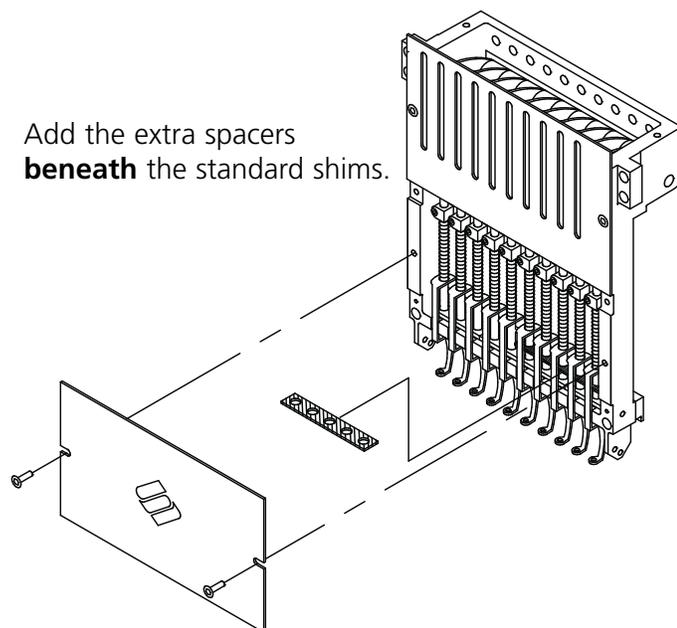

Figure 3-4
Raised needle plates may improve embroidery quality on caps. When cap frames are attached, the curve of the frame leaves extra space between the cap and the needle plate. To eliminate the space and ensure high-quality embroidery, a qualified operator or maintenance person should install raised needle plates as described below. See Figure 3-4.
3. Using a small flat-bladed screwdriver, push the standard spacer up to the top of the presser foot driver assembly (see Figure 3-4).
2. Remove the lower center spacer cover (refer to Figure 3-4).